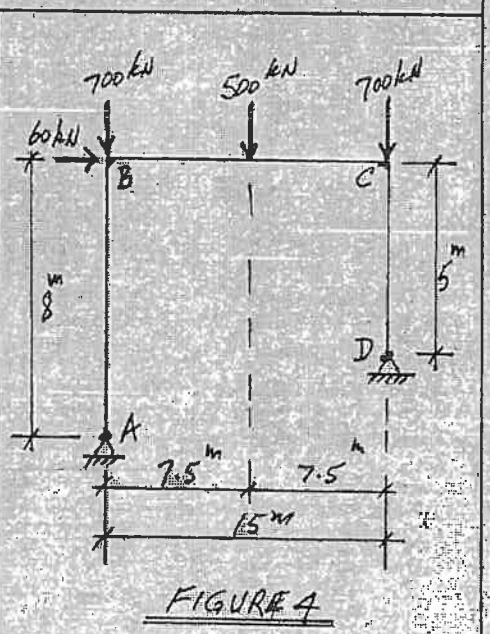

FIGURE 4
6. Figure 4 shows a reinforced concrete frame to be designed using the Limit States Design Method. The members of the frame can be assumed to have the same stiffness. Determine a suitable rectangular cross-section for member BC, showing the amount and layout of the reinforcing steel for both flexure and shear.
7. Design a rectangular reinforced-concrete cross-section for beam-column CD in Figure 4. Also, estimate the long-term vertical deflection at mid-span of member BC.